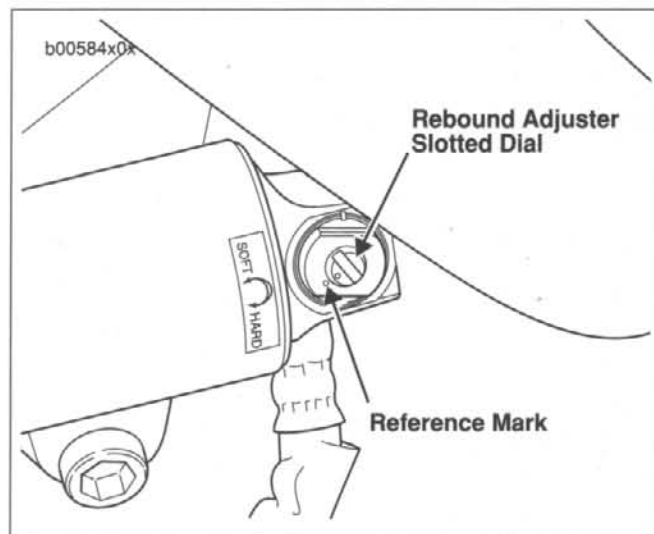

Figure 1-50. Rebound Adjustment
4. See Figure 1-50. Set rebound damping using the slotted dial on the remote reservoir at the front of the shock. The factory setting is as listed below: